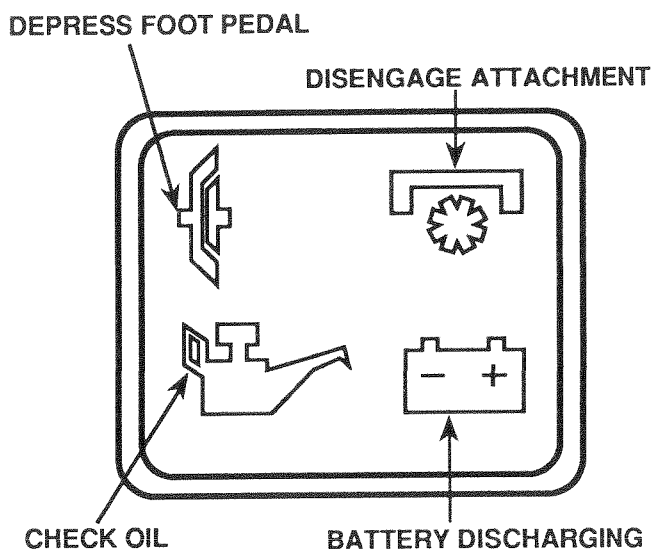

FIGURE 16
1. Check the Indicator Lights (Fig. 16).